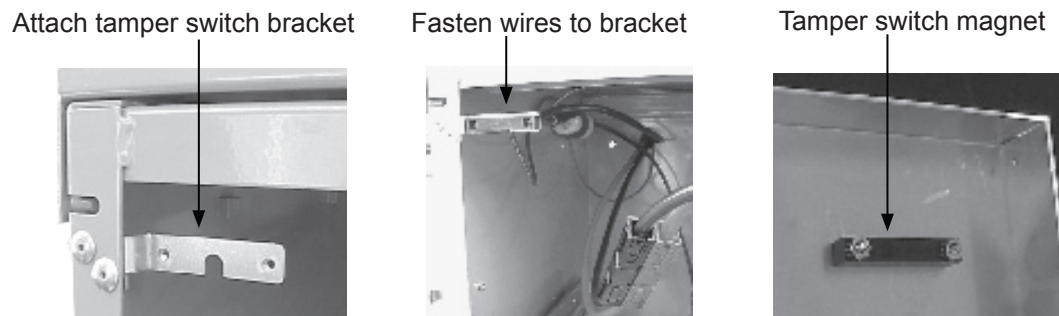

Fig. 2-23, Tamper Switch Installation
1. Using a hand rivet gun with 5/32" nosepiece, attach the tamper switch bracket to the left front flange of the enclosure. See. Fig. 2-23.